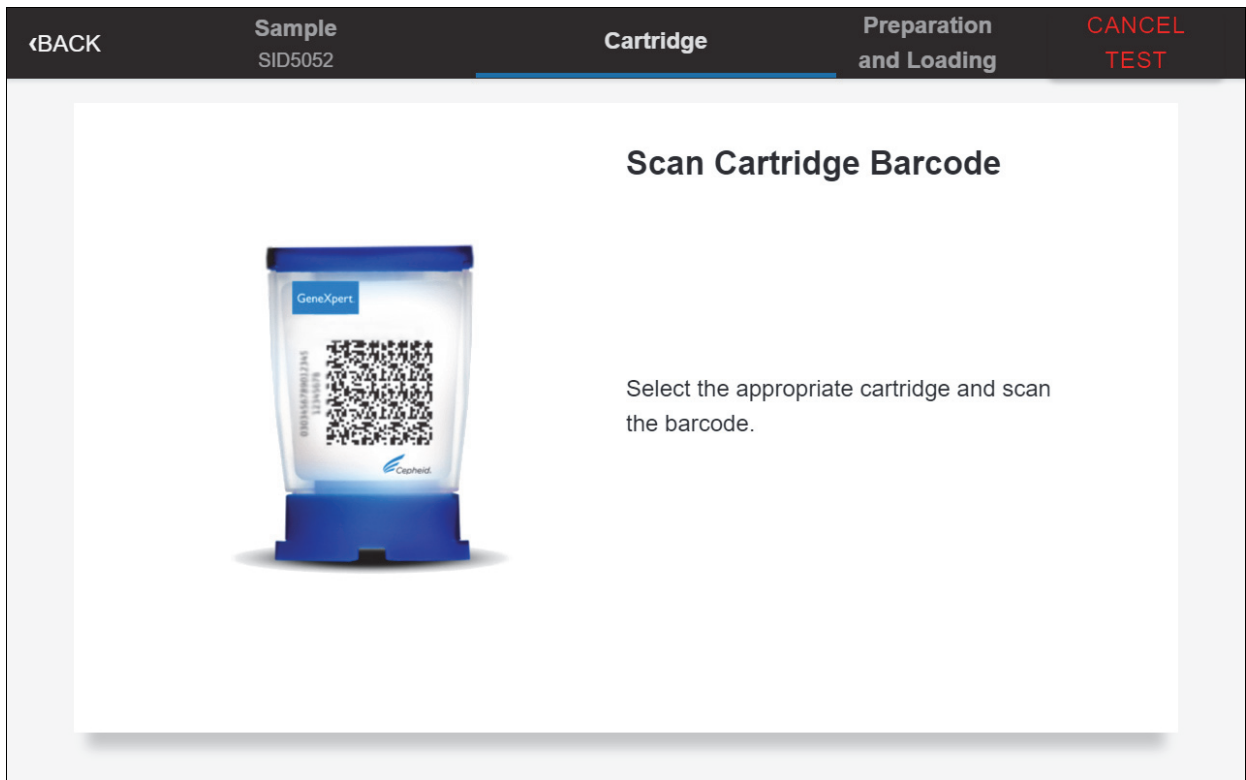

Figure 16. Scan Cartridge Barcode Screen
4. Verify the Sample ID and touch **CONFIRM**. The Scan Cartridge Barcode screen appears (see Figure 16).